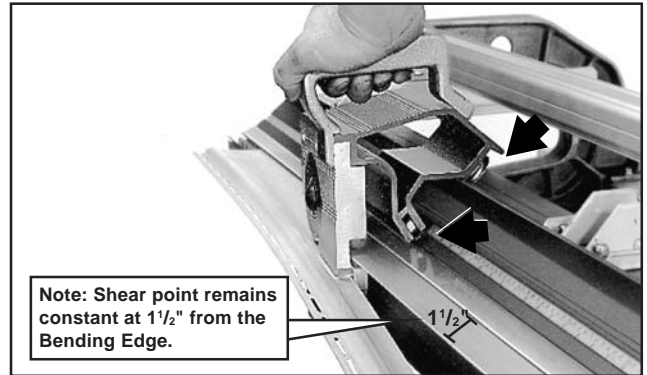

Figure 2. Engage Guide Rollers correctly. Make sure both front and back rollers are seated in their tracks. (Note large arrows in illustration above.)
- The shear point of the **CUT-OFF** remains a constant 1 1/2" from the bending edge. (See note in Figure 2 below.)